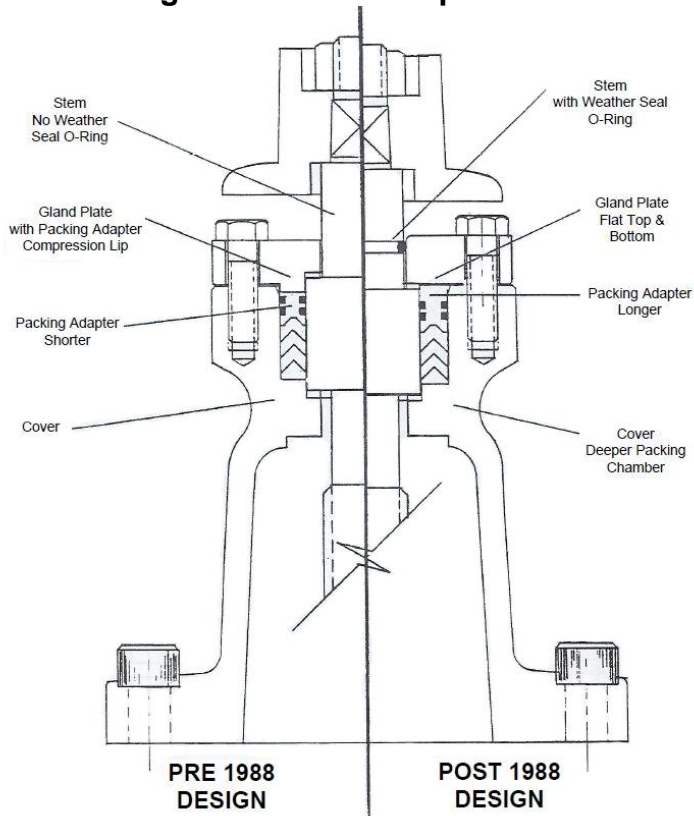

Figure 3: Design Changes
Model-1 Valves are divided into 2 basic designs: (1) Prior to 1988 production date and (2) after 1988 production date. Valves produced after 1988 contain a weather seal O-ring. Figure 3 shows the part differences between the two versions.